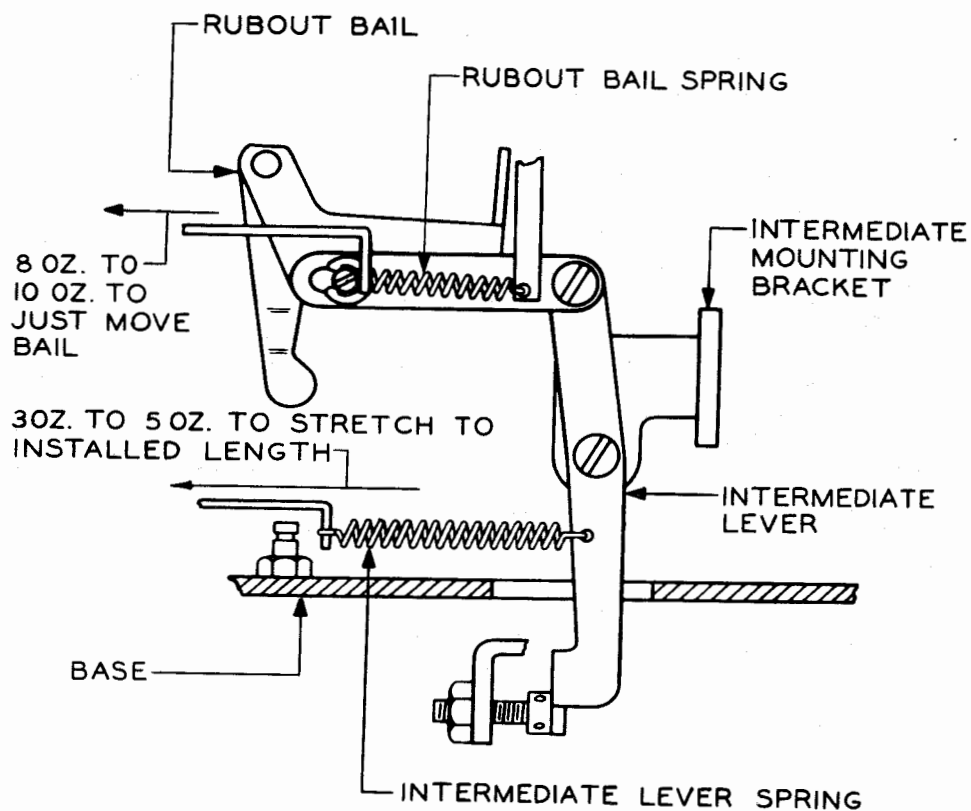

Figure 7
2.21 Rubout Bail Spring Tension: Hook a scale over the spring post and pull in line with the spring. With the rubout-bail camfollower on the low part of the cam and the presensing contacts held away from the rubout-bail lower extension, it should require minimum 8 ounces, maximum 10 ounces to just move the rubout bail. (See Figure 7.)
2.22 Intermediate-lever Spring Tension: Unhook the spring and insert a scale in the spring eye. With the rubout camfollower on the low portion of the cam, it should require a pull of minimum 3 ounces, maximum 5 ounces to stretch the spring to installed length. (See Figure 7.)